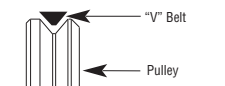

Fig.10
• To check that the large pulley ⑩ is at the correct height you will need to place the belt ①④ over both pulleys so that the V groove of the belt is sitting in the groove of both pulleys. (see fig.10)